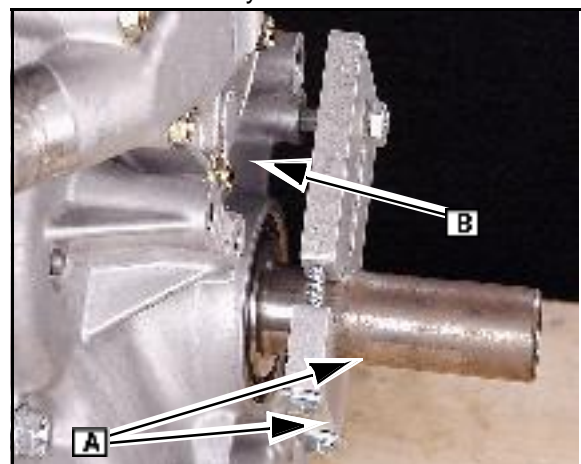

Fig. 2
4. Assemble the clamping tool (comes in kit #19545) to the crankshaft. Tighten screws (A) securely to prevent the crankshaft from turning.
5. Insert drive end of a 3/8" breaker bar into slot of clamp. Hold the breaker bar to prevent the crankshaft from turning or install a bolt through the slot of the tool ([B] Fig. 2) into an open hole in the bolt circle of the cylinder cover.